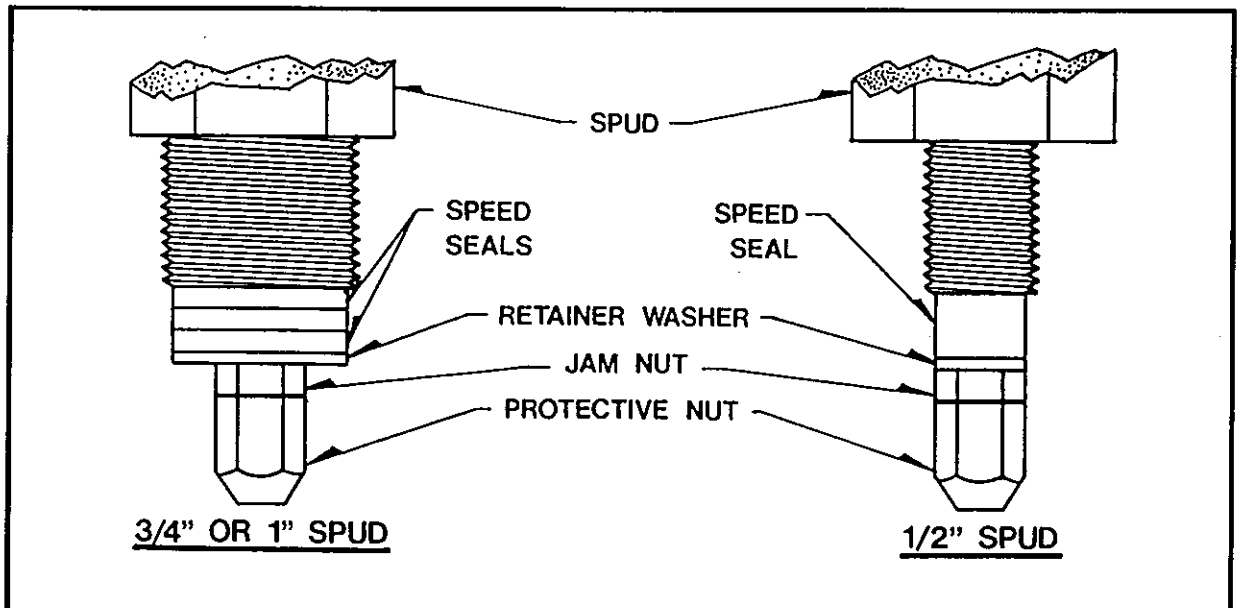

FIGURE 7) SPEED SEAL DETAIL
2. Install the proper size Speed Seals on the end of the test spud. Next, the Retainer Washer fits over the Speed Seals to hold them in place, followed by the Jam Nut and then the Brass Protective Nut, as shown in Figure 7 and in Form No. GSO8204-9. The Speed Seals and Retainer Washer must be of the proper size to match the Test Spud and cylinder neck that they are being used with, otherwise the spud seal may leak and the head sealing mechanism may be damaged.